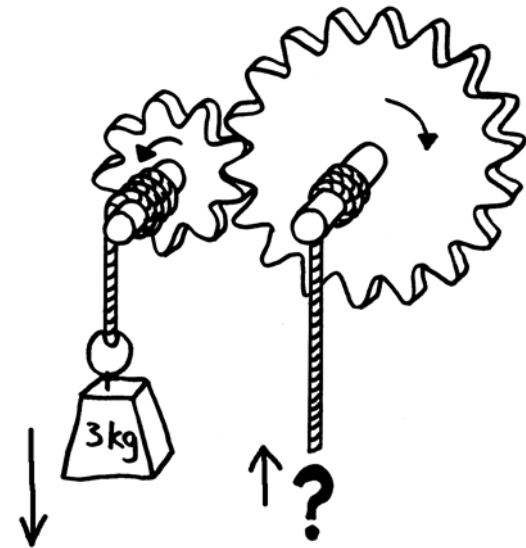

Figure 15
5. If you pull down with a force equal to 3 kg on the input side, how heavy a load can be lifted on the output side? Write this below and also on Figure 15.
The 3 kg input weight in Figure 15 represents the turning force exerted on the input axle. The output weight represents the turning force exerted by the output axle. You will now check your answer to question 6 by using the formulas for gear ratio: